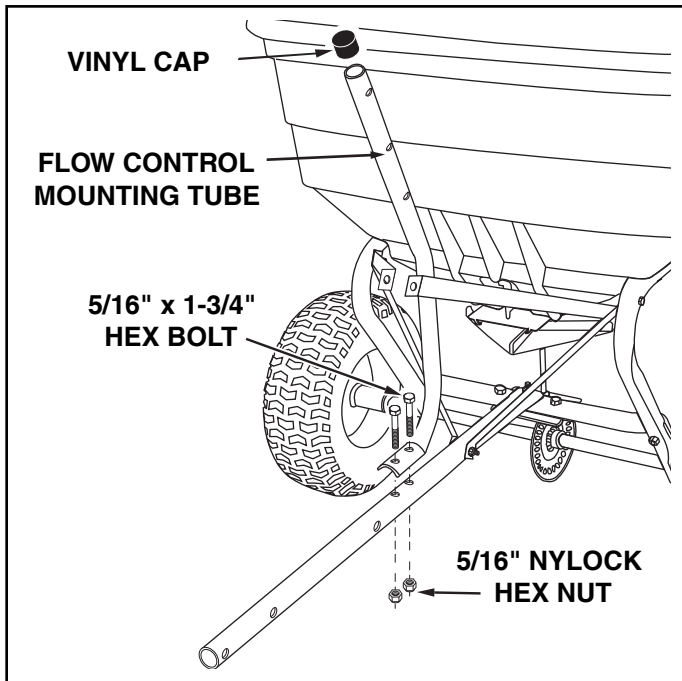

FIGURE 5
- Assemble the flow control mounting tube to the hitch tube using two 5/16" x 1-3/4" hex bolts and 5/16" nylock hex nuts. **DO NOT TIGHTEN YET.** See figure 5.
- Assemble the vinyl cap onto the flow control mounting tube. See figure 5.